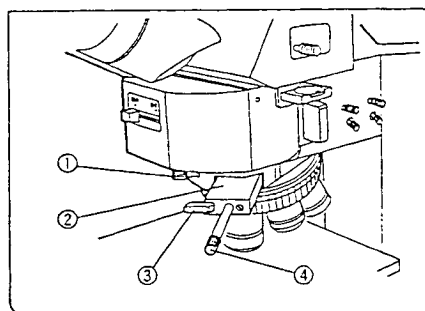

Fig. 68
### 3 Installing the Nomarski Prism (Fig. 68)
(Fig. 68)
1. Rotate the prism control knob ④ of the DIC prism slider to select the interference color of the background, and to achieve the maximum contrast depending on the specimen under observation, as outlined below. (Fig. 68)